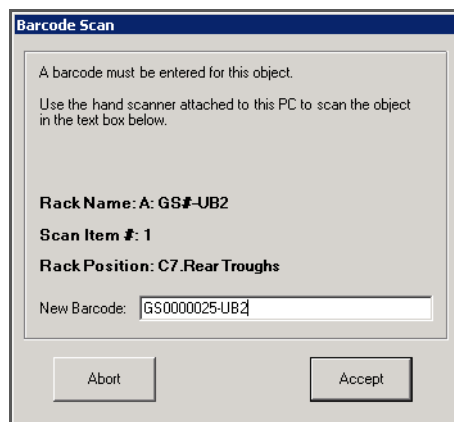

Figure 47 Scan UB2 Prompt
- b. When prompted, hand-scan the UB2 barcode at the robot PC (Figure 47).